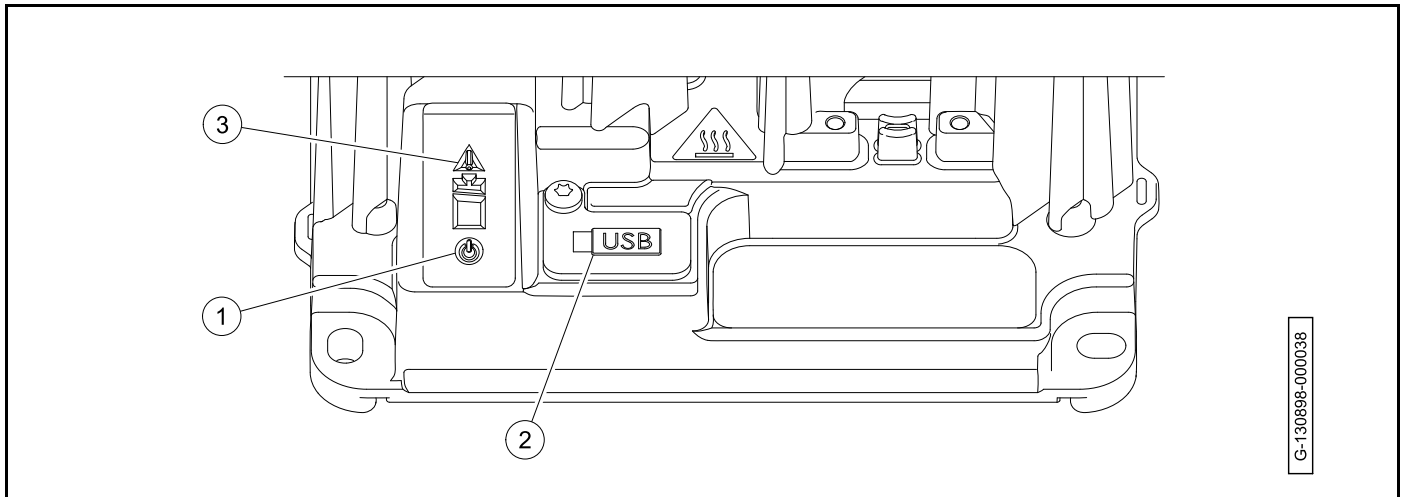

Figure 15-13 USB Dust Cover
12. Wait until only the blue light (1) is on (Figure 15-13).
6. Wait until only the blue light (1) is on (**Figure 15-13**).